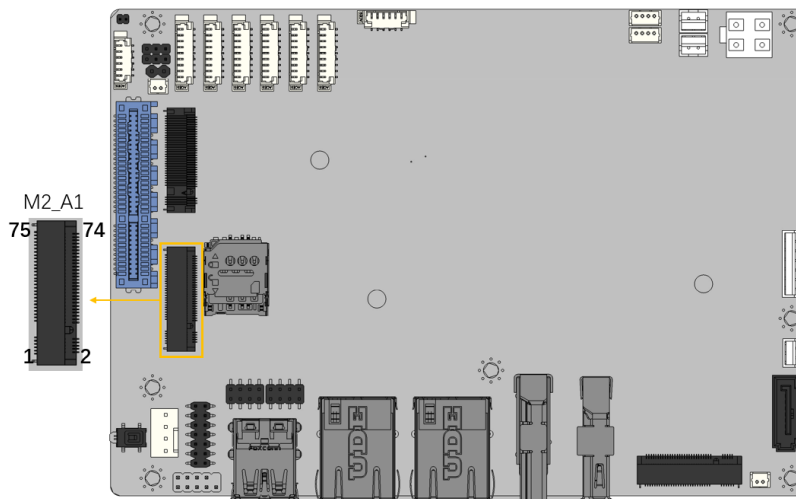

Figure 3-25: M.2 A-key Slot Location
- CN Location:** See Figure 3-25